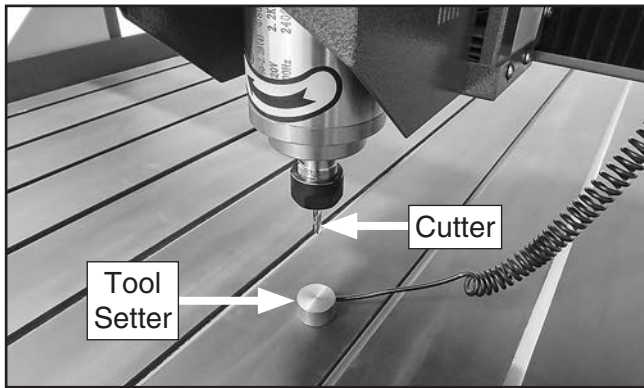

Figure 25. Cutter over tool setter.
4. Manually move X- and Y-axes so cutter is directly above tool setter (see **Figure 25**).